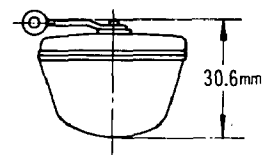

Fig. 9-2-2
- 1) Check float with a depth gauge and if necessary, bend float lever to obtain the setting indicated in Fig. 9-2-2.